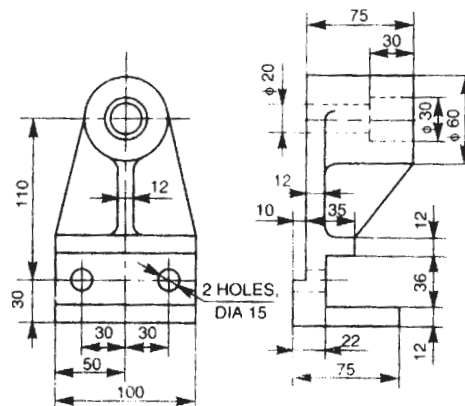

fig No.1
- Q11)** Design a jig for drilling 2 holes of Φ 15 mm holes for a component shown in fig. No.1 [20]
- Q12)** Design a Milling fixture for Φ 60 mm and length 75 mm for a component shown in fig.No.1 [20]